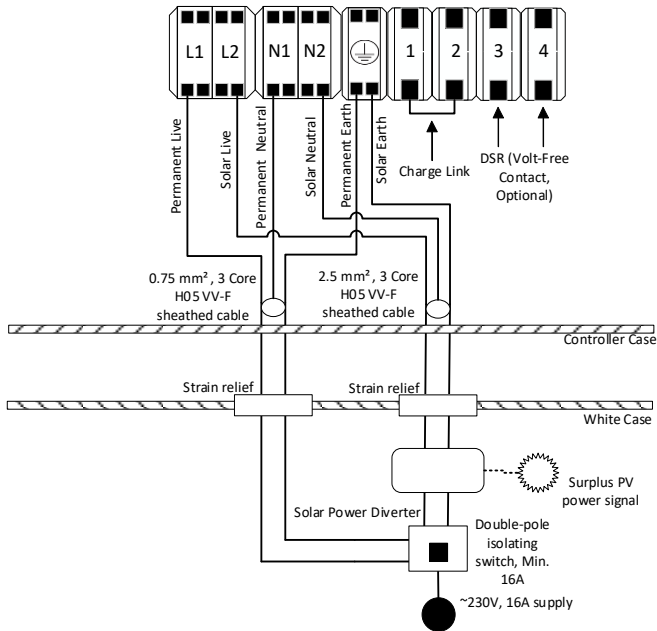

Figure 12 - Thermino ePlus Heat Battery wiring with solar power diversion
- With Solar Power Diversion follow Section 6.3.2, Figure 12.
Potential dual-supply - Always isolate both supplies to the Heat Battery controller before working on the appliance. Ensure that Links 1 & 2 are removed (see Figure 12) and that the power diversion controller output is modulating AC.